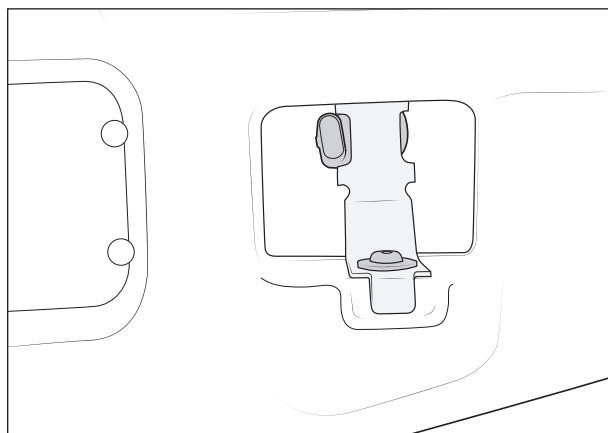

*Figure 38*
- B. On the inside of the corner tank, cut out the panels shown (fig. 38). NOTE: 2010-18 trucks may require additional trimming to allow for connector clearance.